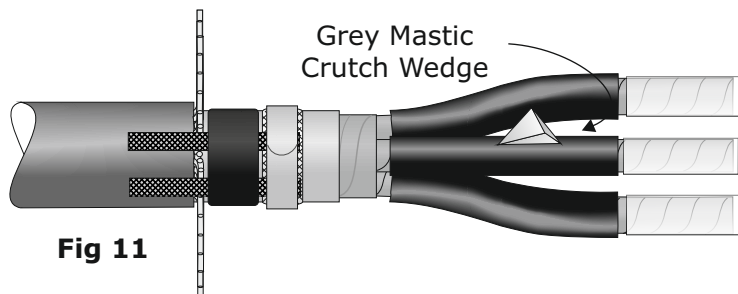

Fig 11
16. Take the grey mastic crutch wedge and with the aid of a little cable grease, force it into the crutch between the cores as far as possible, see Fig 11.